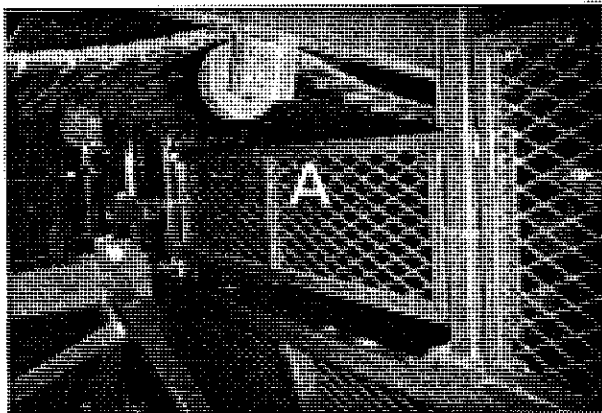
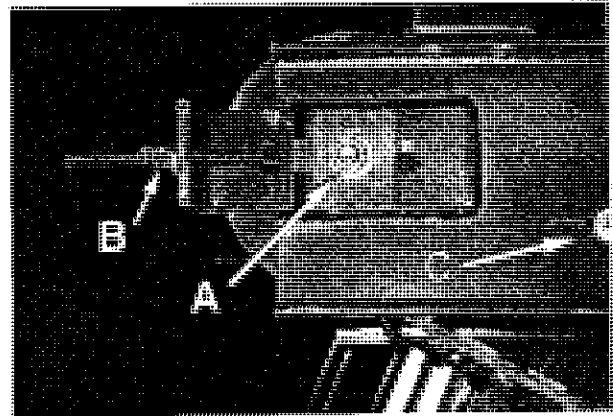

Figure 52. Tank Elevator Draper Chain
Figure 53. Truck Elevator Tension Adjustments
Adjustments for the tank elevator draper chain are located at the end of the elevator. The tension adjustment mechanism is similar to the tension adjustment mechanism for the truck elevator shown in Figure 53. Set the tension by loosening the bolts on the flange rollers and the roller scrapers (see Figure 53-A&C), then adjust the bolts (see Figure 53-B). Ensure that the tension is identical on both sides of the elevator. Also ensure that there is sufficient tension to prevent the draper chain from dragging on the grate shown as A in Figure 52. Tighten bolts A and C.
The truck elevator must be in the up position before adjusting the tension of the belted draper chain (Figure 53). Set the tension by loosening the bolts on the flange rollers and the roller scrapers (see Figure 53-A&C), then adjust the bolts (B) to set the tension. Tighten bolts A and C.